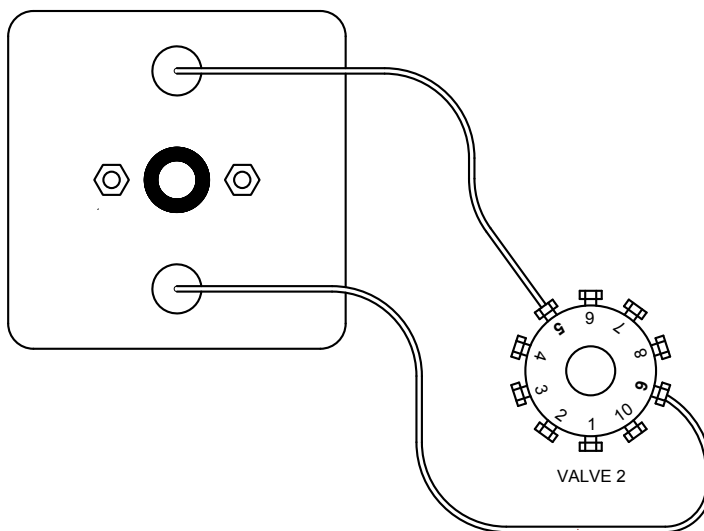

Figure 7-2
- 7.1.4 Disconnect the 1/16-in fittings at Ports 5 and 9 on the 10-port sample/backflush valve. (Figure 7-2).
- 7.1.11 Reconnect both 1/16-in LDV compression fittings to Valve 2, ports 5 and 9 (refer to Figure 7-2)